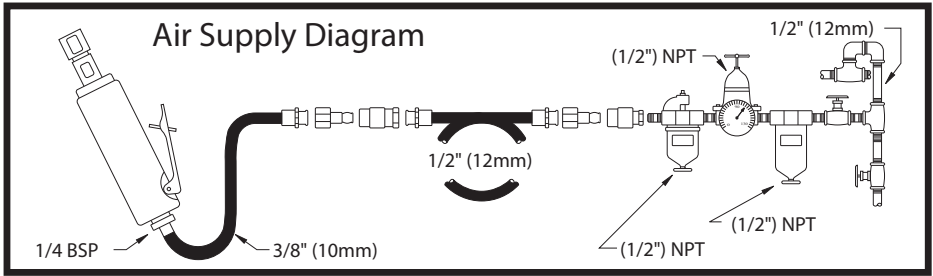

Fig. 01
3. Operation (See figures 01, 02 & 03)
- Connect device as shown in Fig. 01.
- To start the machine, pull the trigger (A). Machine speed is increase by increasing pressure on the trigger. Release the trigger to stop.